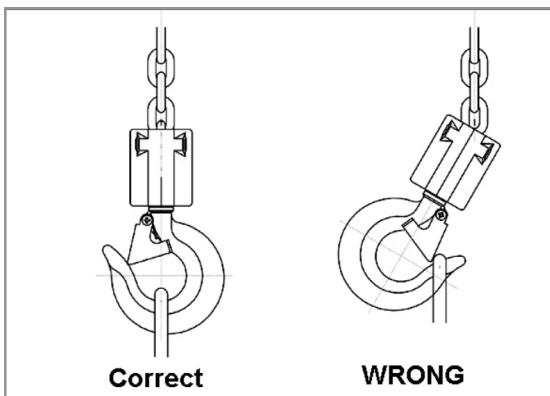

Figure 12
2. Place load sling or chain in the centre of the bottom hook, making sure the safety latch is secure. **Never load the hook in front of the safety latch.** See Figure 12.